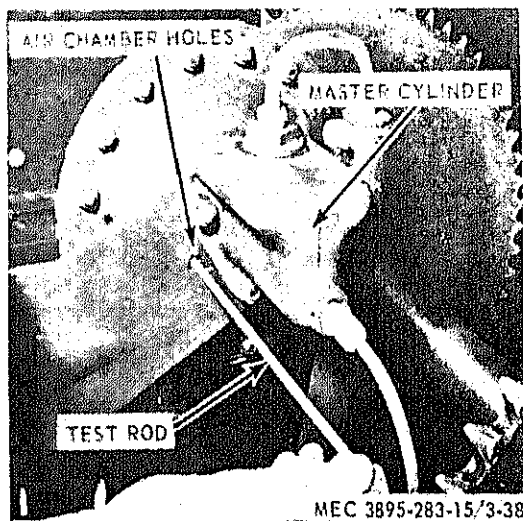

Figure 3-38. Push Rod Travel Test.
- (1) Position air chamber on operator side of support bracket with the three studs projecting through support. Position master cylinder assembly on the three studs and tighten in place with lockwashers and nuts.
- (2) Connect hydraulic tube at rear of cylinder assembly.
- (3) Connect air tubing to front of chamber.
c. Push Rod Travel Test (fig. 3-38).
- (1) With brakes released, insert a small rod through one of two inspection holes in support and chamber. Mark rod at surface of support when rod contacts push rod return spring retainer in chamber.
- (2) Apply brakes and again mark rod at surface of support with rod in contact with return spring retainer.
- (3) Withdraw rod and measure distance between marks, which will indicate amount of push rod travel.
- (4) Brakes should be adjusted to permit a minimum of $1/2$ inch travel. Adjust brake